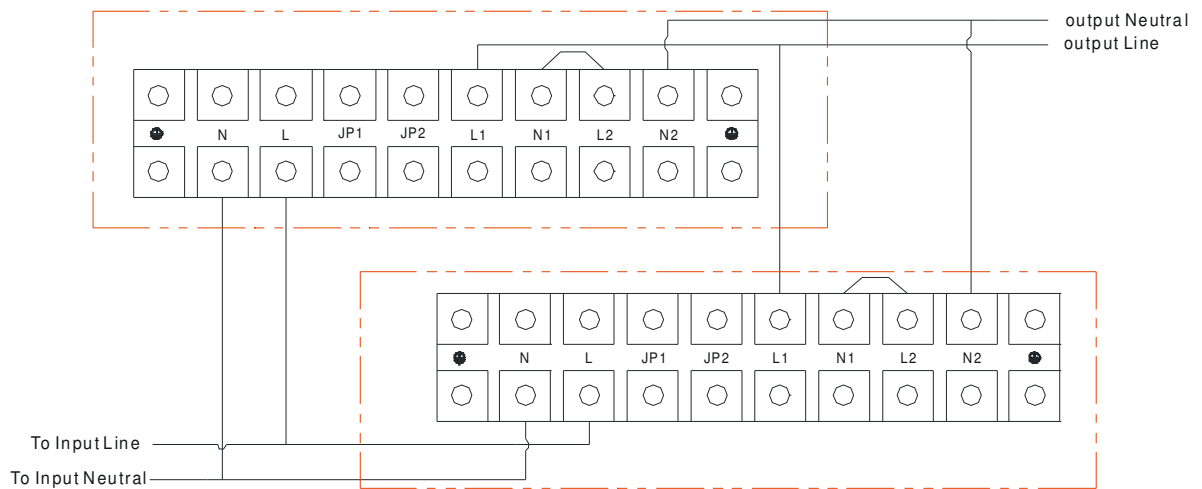

Figure 5.3.2
Recommended wiring of parallel operation system shown in figure 5.3.2, figure all of later explanations are based on this configuration.
5. Check wiring. Refer to Figure 5.3.2